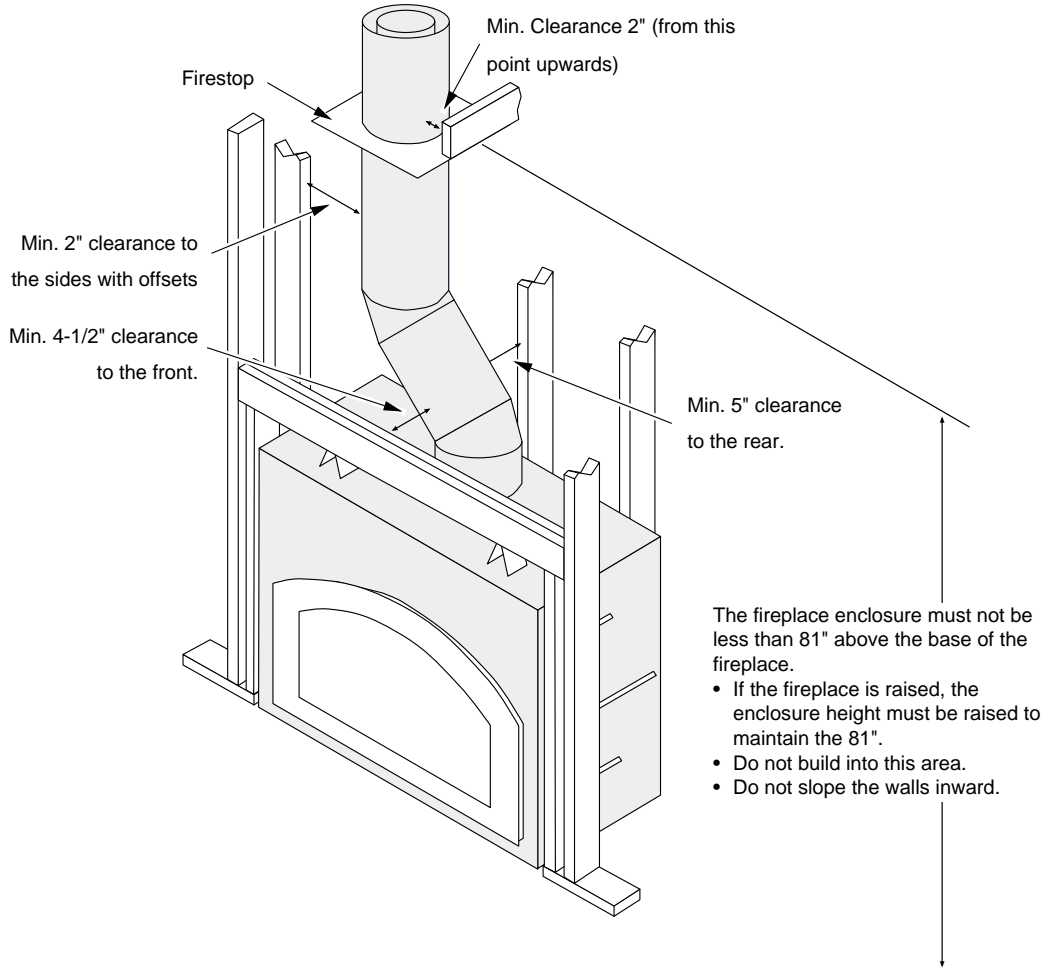

Figure 20
- Maintain a 2" clearance from the chimney to combustibles (measured horizontally). See Figure 20.